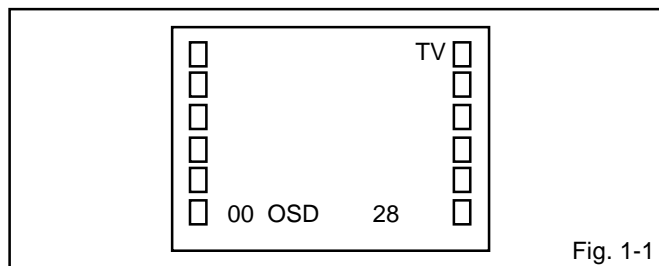

Fig. 1-1
Press the VOL. DOWN button on the set and the Channel button **(9)** on the remote control for more than 1 second to appear the adjustment mode on the screen as shown in **Fig. 1-1**.
3. Activate the adjustment mode display of **Fig. 1-1** and press the channel button **(01)** on the remote control to select "CUT OFF".
4. Activate the adjustment mode display of **Fig. 1-1** and press the channel button **(10)** on the remote control to select "R. BIAS".
3. Activate the adjustment mode display of **Fig. 1-1** and press the channel button **(05)** on the remote control to select "H. PHAS".
3. Activate the adjustment mode display of **Fig. 1-1** and press the channel button **(07)** on the remote control to select "V. SFT".
3. Activate the adjustment mode display of **Fig. 1-1** and press the channel button **(06)** on the remote control to select "V. SIZE".
3. Activate the adjustment mode display of **Fig. 1-1** and press the channel button **(13)** on the remote control to select "BRI.CENT".
3. Activate the adjustment mode display of **Fig. 1-1** and press the channel button **(22)** on the remote control to select "TINT".
6. Activate the adjustment mode display of **Fig. 1-1** and press the channel button **(19)** on the remote control to select "COL.CENT".
1. Activate the adjustment mode display of **Fig. 1-1** and press the channel button **(17)** on the remote control to select "CONT. MAX".
1. Activate the adjustment mode display of **Fig. 1-1**.